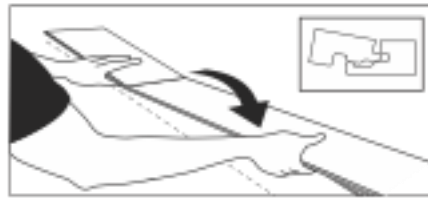

Fig. 3 Installing the second plank.
- Install the second plank in the row by angling the end tongue into the end groove of the first plank (Fig. 3). Install second and subsequent full pieces in the first row by aligning short ends of the planks and locking into place.